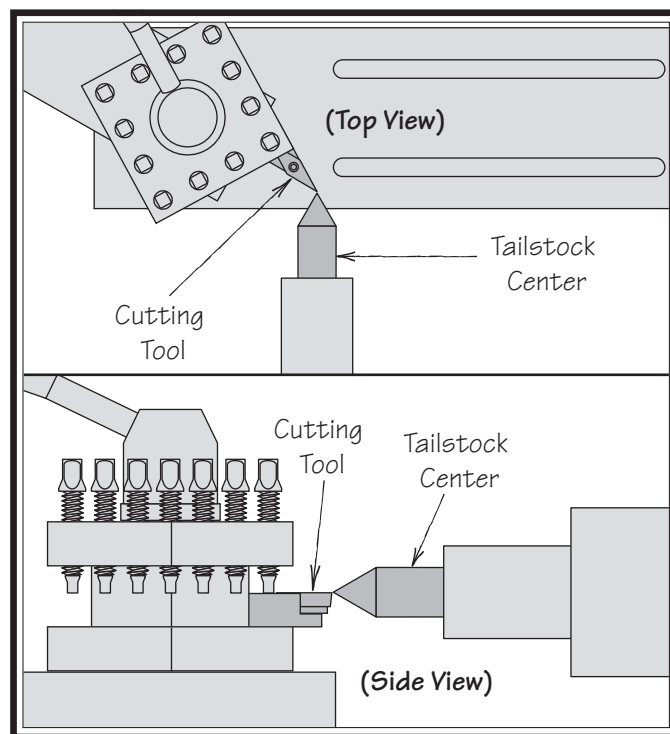

Figure 59. Cutting tool tip aligned with tailstock center.
- Adjust the height of the cutting tool so that the tool tip is aligned vertically and horizontally with the center tip, as shown in **Figure 59**.